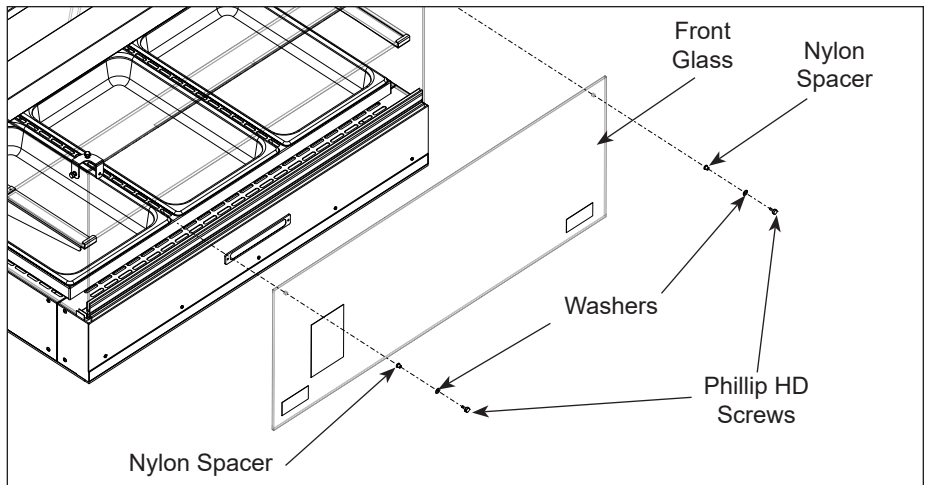

Figure 8. Front Glass Replacement
2. Remove the two Phillips head screws, washers, and nylon spacers securing the side glass (Figure 8).